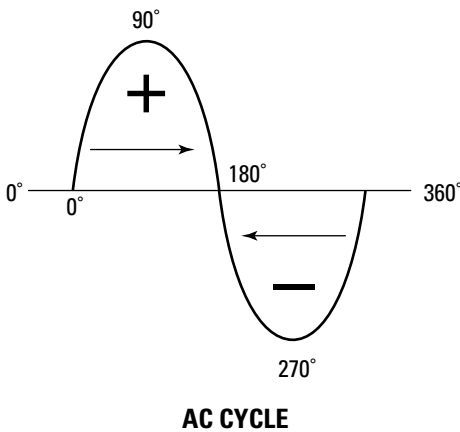

Figure 1-2: Alternating current.
Alternating current (AC), as shown in Figure 1-2, is an electrical current that has both positive and negative half-cycles. These current cycles don't occur simultaneously, but alternately, thus the term *alternating current*. Current flows in one direction during one half of the cycle and reverses direction for the other half. The half cycles are called the *positive half* and the *negative half* of the complete AC cycle. Together, this "hill" (positive half) and "valley" (negative half) represent one cycle of alternating current.
Alternating current is used while welding aluminum and magnesium. An AC sine wave (refer to Figure 1-2) is a graphical representation of alternating current.